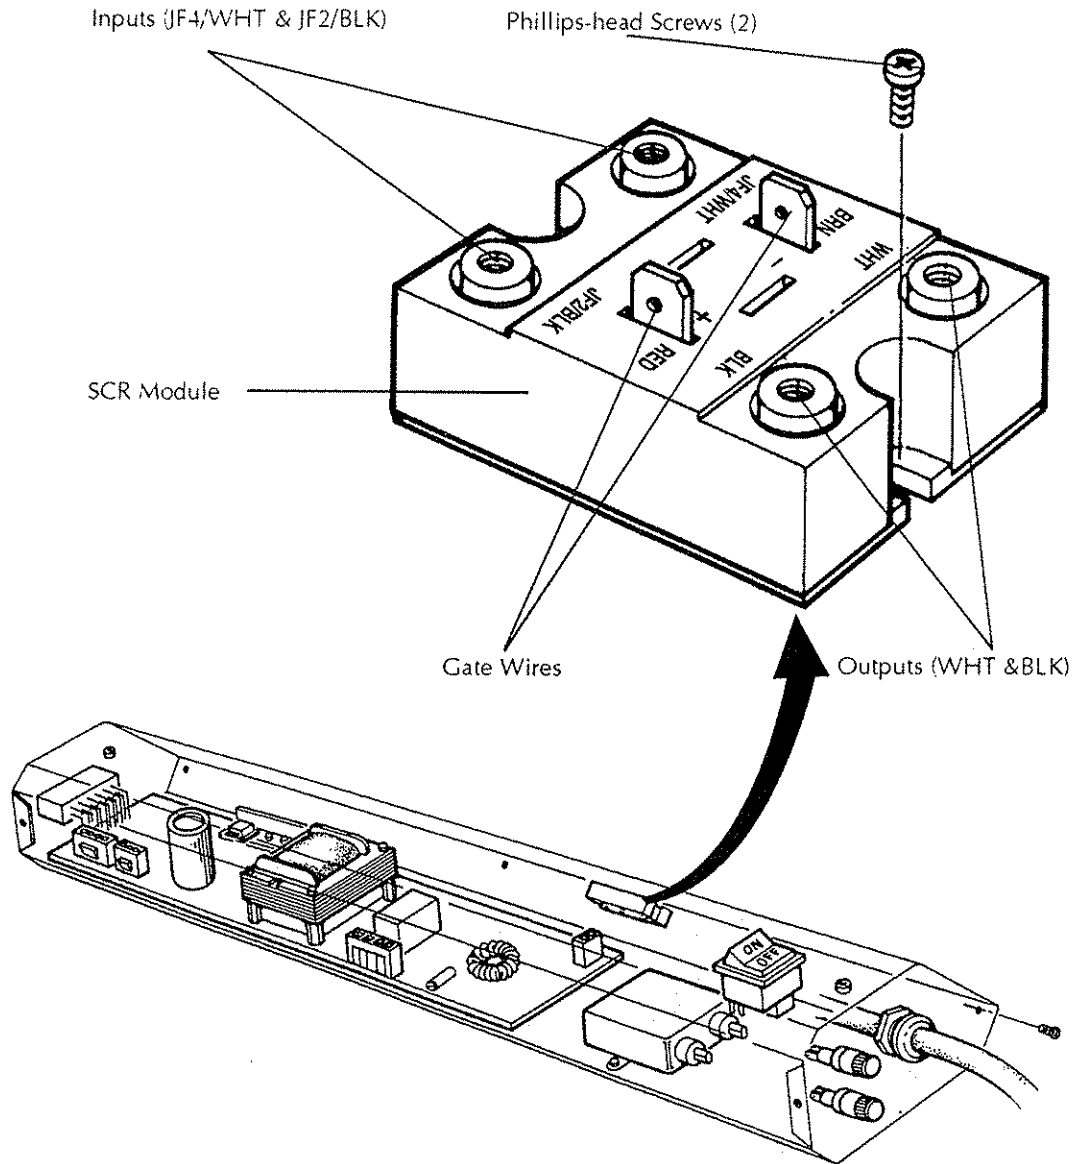

Figure 5-8: Replacing the SCR Module
4. Label and disconnect the two gate wires (slide connectors marked BRN – and + RED) from the SCR module. See Figure 5-8.
5. Label the remaining four wires attached to the SCR module. Remove the Phillips-head screws securing these wires to the SCR module. See Figure 5-8.
6. Remove the two Phillips-head screws used to secure the SCR module to the relay box. See Figure 5-8.